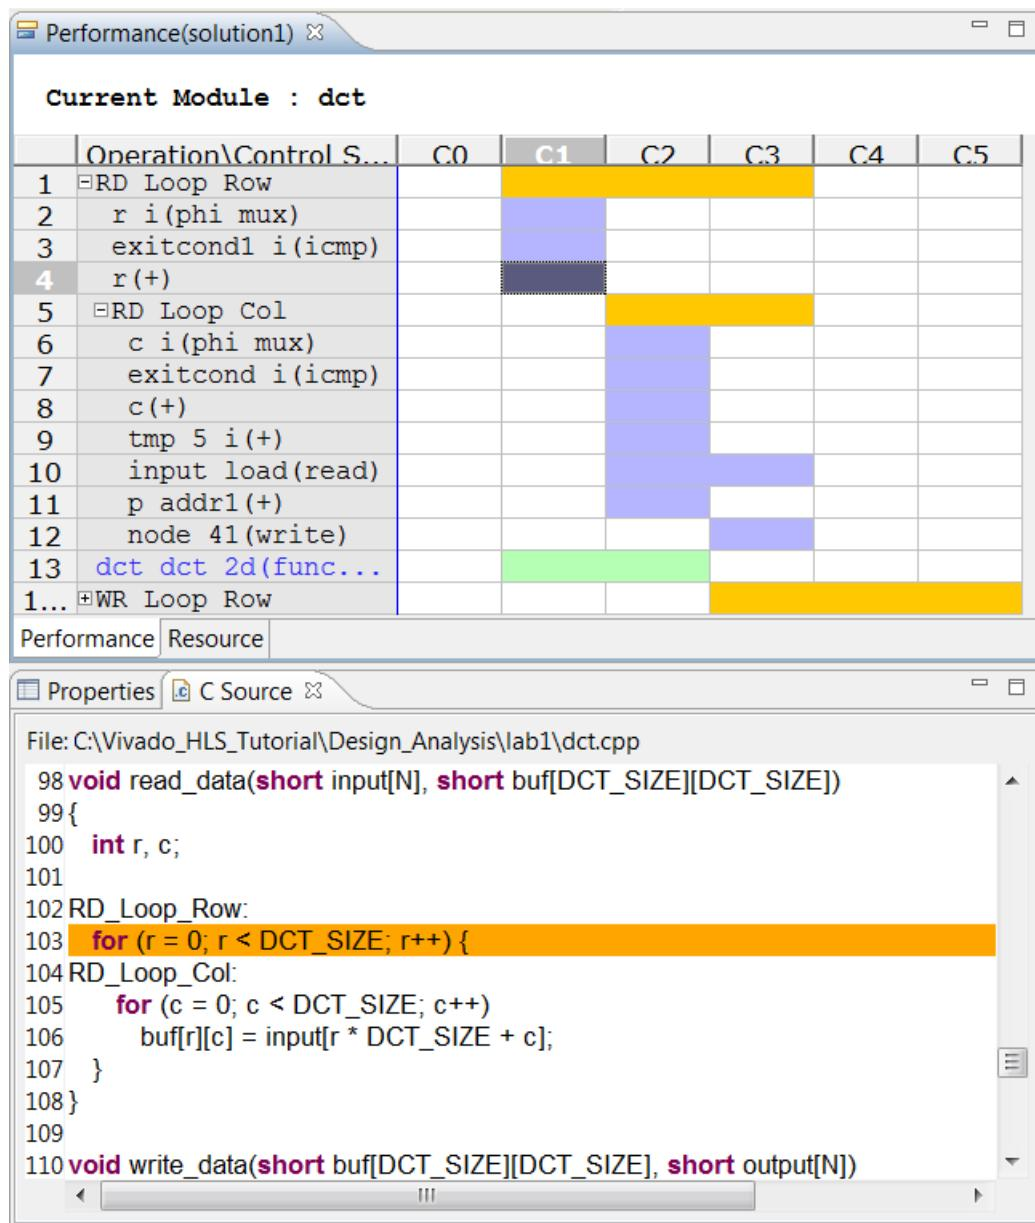

Figure 6-10: C Source Code View
3. Select the adder in state C1, right-click and select **Go to Source** (Figure 6-10).
- When the dialog box opens, press OK to select item 0.
This opens the C source code to highlight the operation in the C source that created this adder. From the details on screen (also shown in Figure 6-10), you can determine it is indeed the loop counter. It is the only addition on this line, and the variable is named "r".